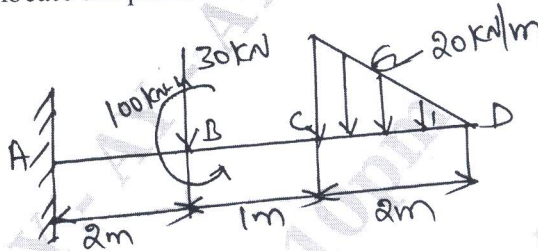

Fig Q5(b)
b. Draw the shear force and bending moment diagram for a cantilever subjected to the forces as shown in Fig Q5(b) and locate the point of Contra-flexure .